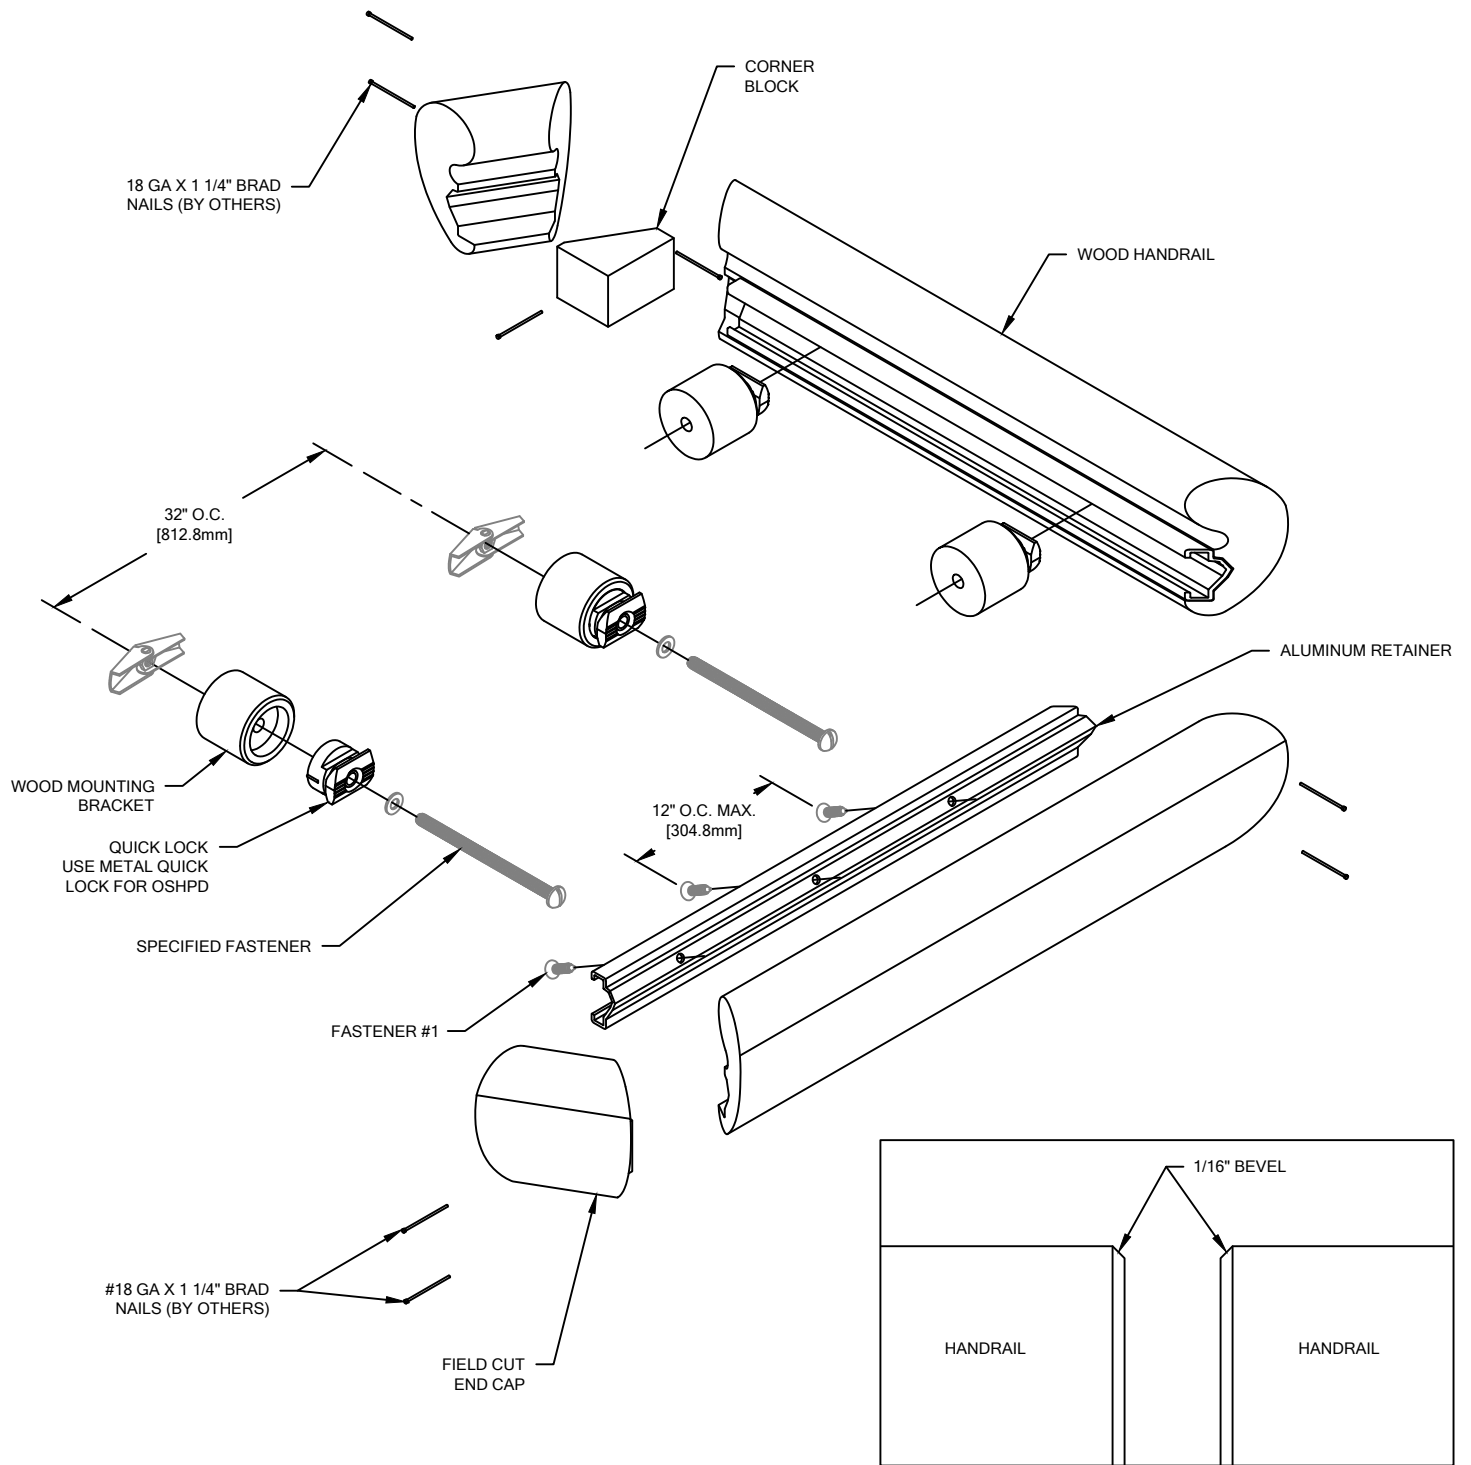

FIGURE 1.
1. DUE TO WOOD BEING A NATURAL PRODUCT, COMPONENTS MAY GROW AND SHRINK AT DIFFERENT RATES. BECAUSE OF THIS, C/S HAS DESIGNED THIS HANDRAIL TO UTILIZE A BEVEL AS SHOWN IN THESE INSTRUCTIONS (SEE FIGURE 1). THIS BEVEL MUST BE APPLIED AT ALL WOOD HANDRAIL SPLICE JOINTS.